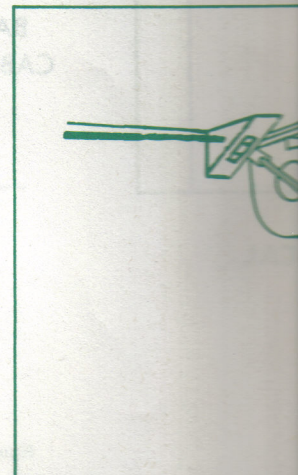

Fig. 10
3. Bring mounting strap into place with dimples on blower housing. (Fig. 10)